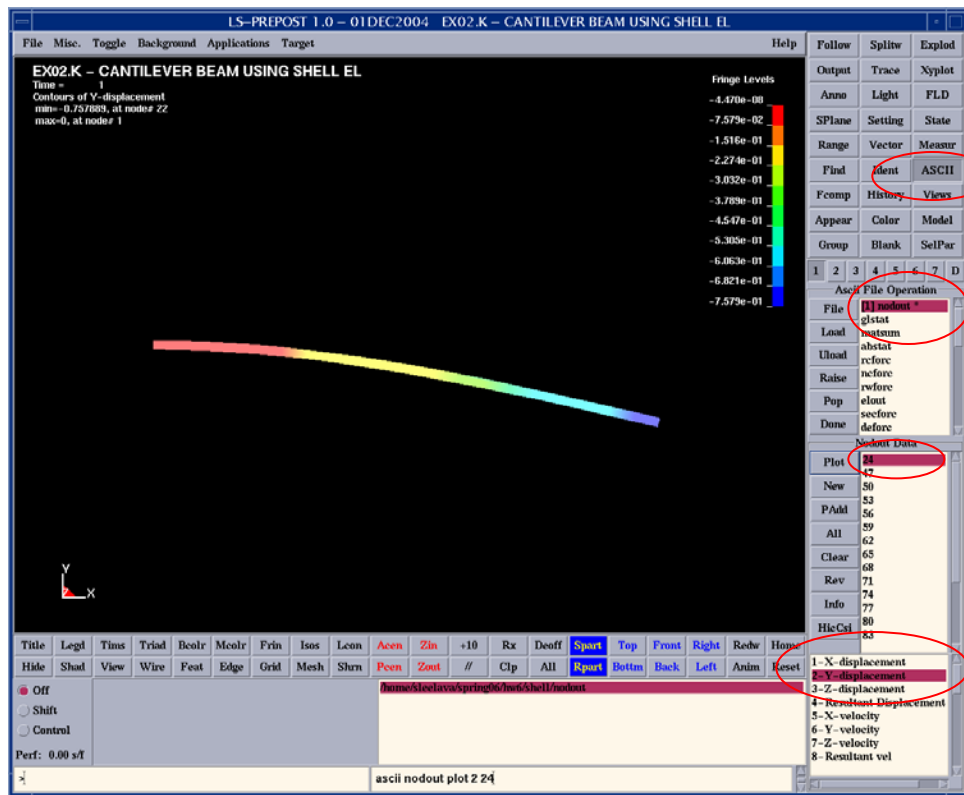

Figure 9: ASCII screen.
7. Click on **ASCII** in the *Main Button Menu* (Figure 9). The files that end with asterisk are the one that the program already have the data. In our case, *nodout* is created from the keyword input file.